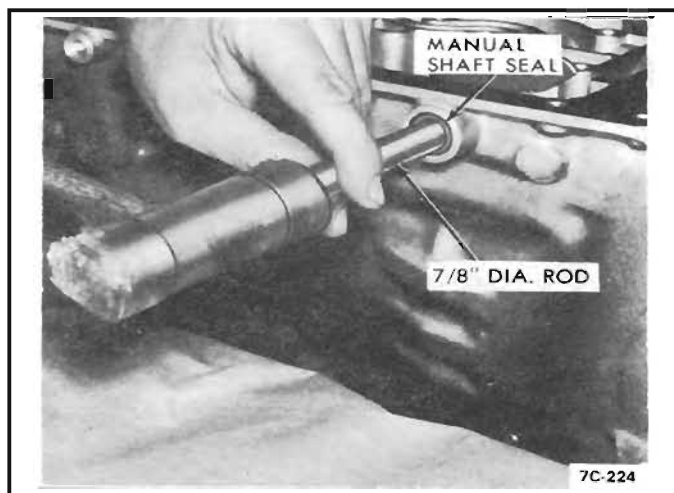

Figure 105 Seal Installation
1. If a new manual shaft to case lip seal is necessary use a 7/8" diameter rod and seat flush with case. *See Figure 105.*